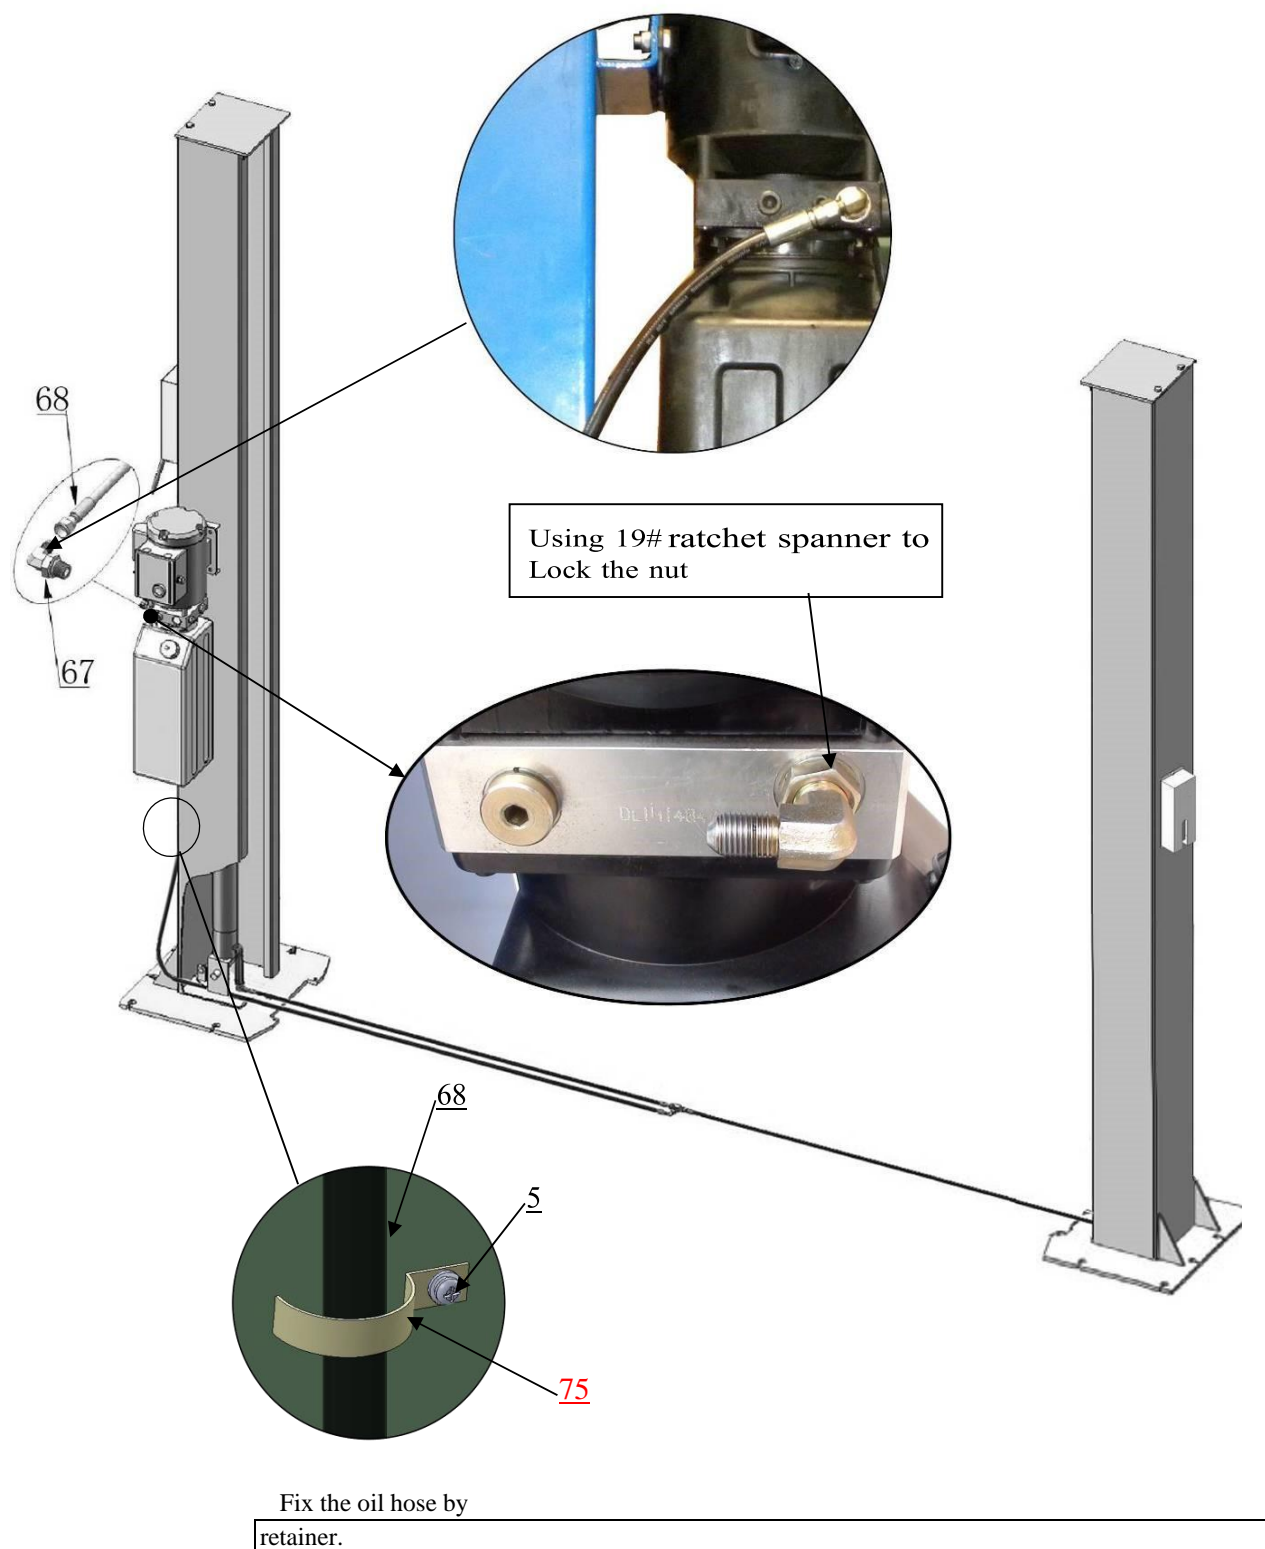

Fig. 20
K. Install hydraulic power unit and oil hose assy. (See Fig. 20).